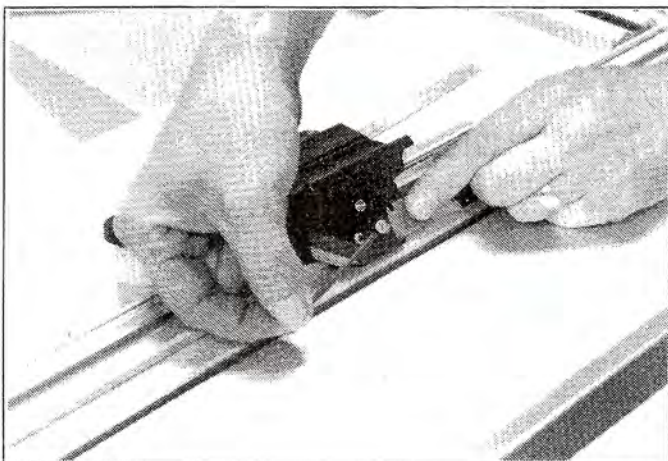

Fig. 16
1. Remove the vertical blade holder (5), with the slideway in the down position.
2. Loosen the bevel blade locking screw on the side of the cutter head by half a turn, using the 3mm Allen key. Slide the blade out of the rear of the cutter head (Fig. 16).